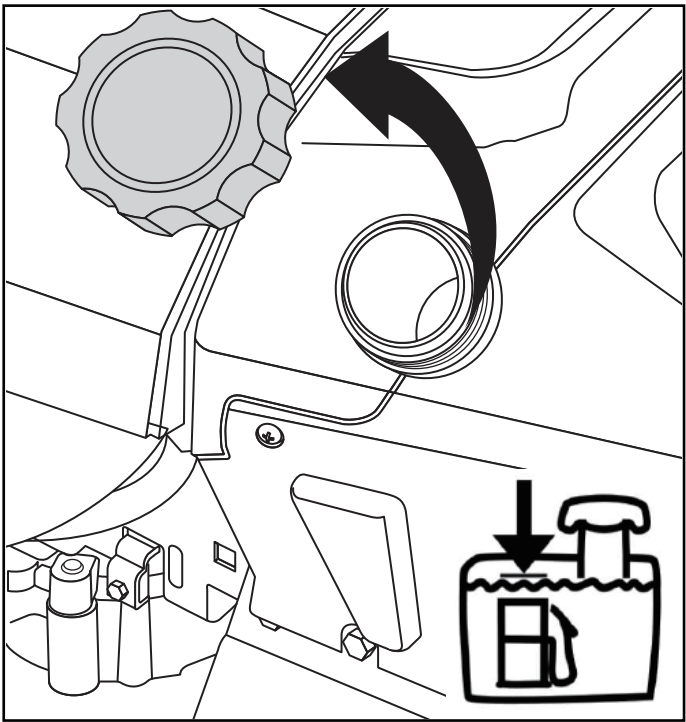

Fig. 13
2. Remove the fuel cap.(Fig. 13)